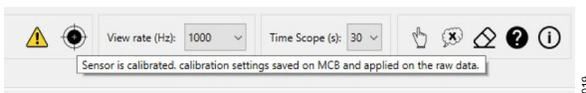

Figure 19. Upload Calibration File
6. Select the desired .bin file in the **Calibration bins** text box and click the **To MCB** button to upload the calibration coefficients to the EVAL-ADIS-MCBZ board. A pop-up window with the message **Calibration file uploaded on the MCB** is displayed if the operation is successful. Also, notice that the target icon is shown solid black (see Figure 19), which indicates that the calibration coefficients are being applied on the raw data.